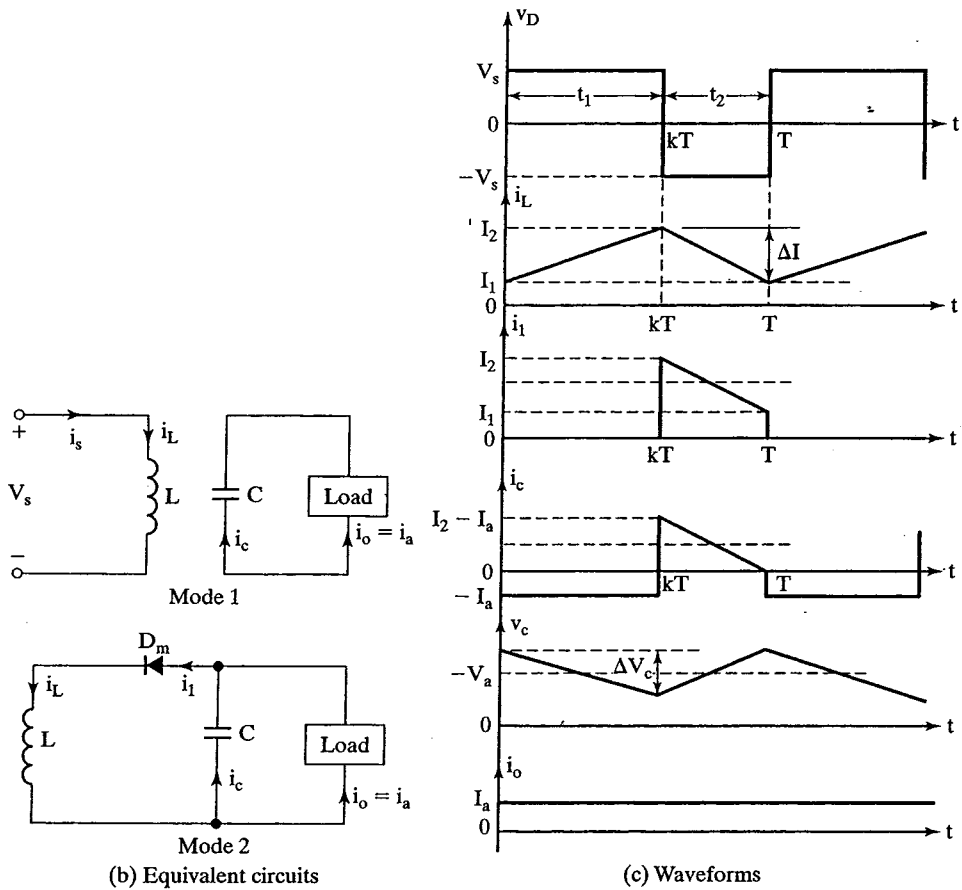

Figure 2 : Buck-boost Regulator
4. Figure 2 shows a buck-boost regulator with the following parameters:
- (a) Using the boost regulator circuit diagram as shown in Figure 2, prove that the output voltage V_a can be related to input voltage V_s by